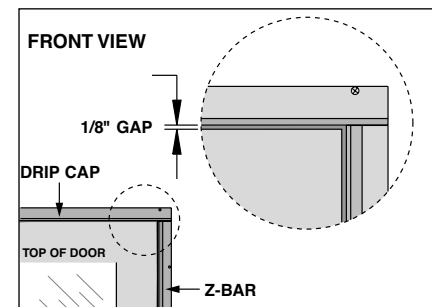

FIGURE 9
1. Place drip cap into position above door. **See Figure 9**
3. Install two (2) #8x1" panhead screws through pre-drilled holes in the outside face of the drip cap.